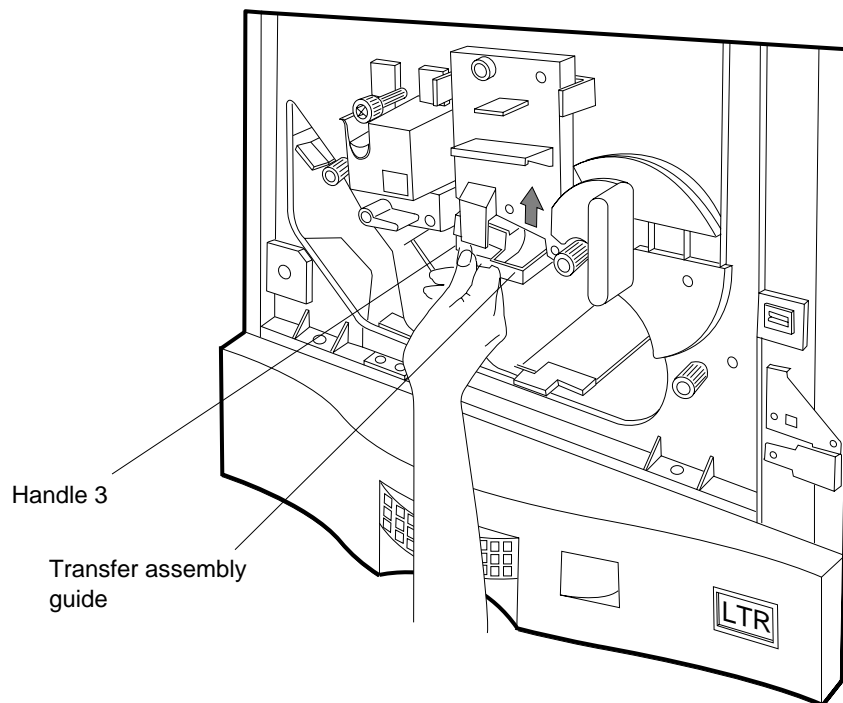

Figure 4-32 Securing the Transfer Assembly
3. Secure the transfer assembly guide by lifting Handle 3 until it snaps into place as shown in Figure 4-32.